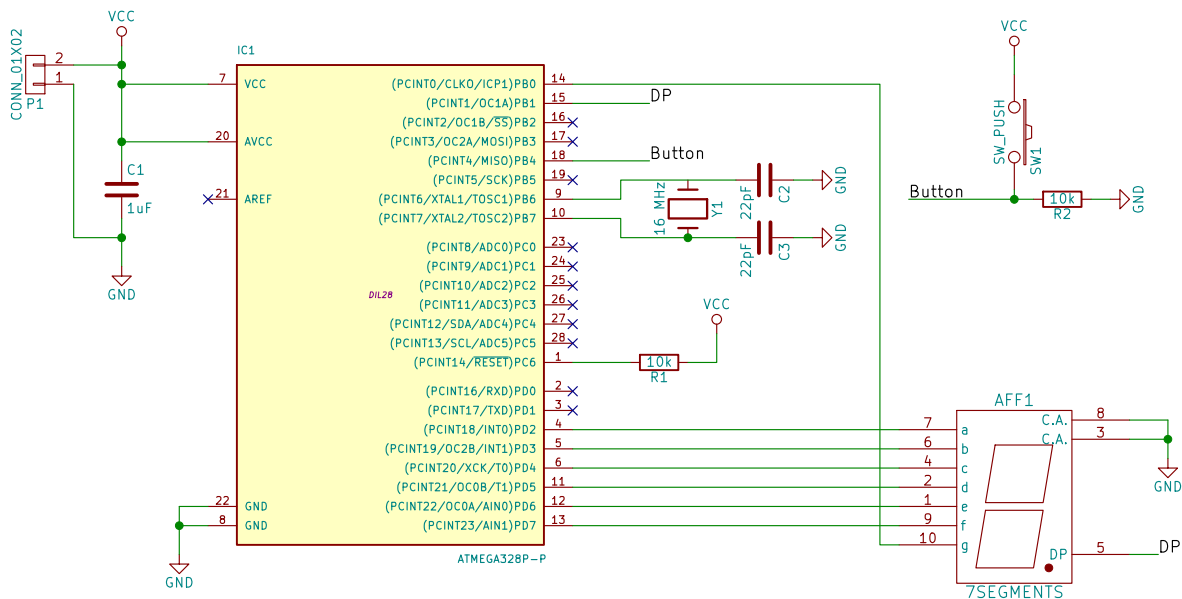

Figure 7: Completed schematic drawing of Example 1 circuit.
- f) Repeat steps a–e for the connection between ATmega328P’s *PB4* pin and the push button. Refer to the final schematic (Fig. 7) for how it looks.
12. The final schematic should look like that in Fig. 7.